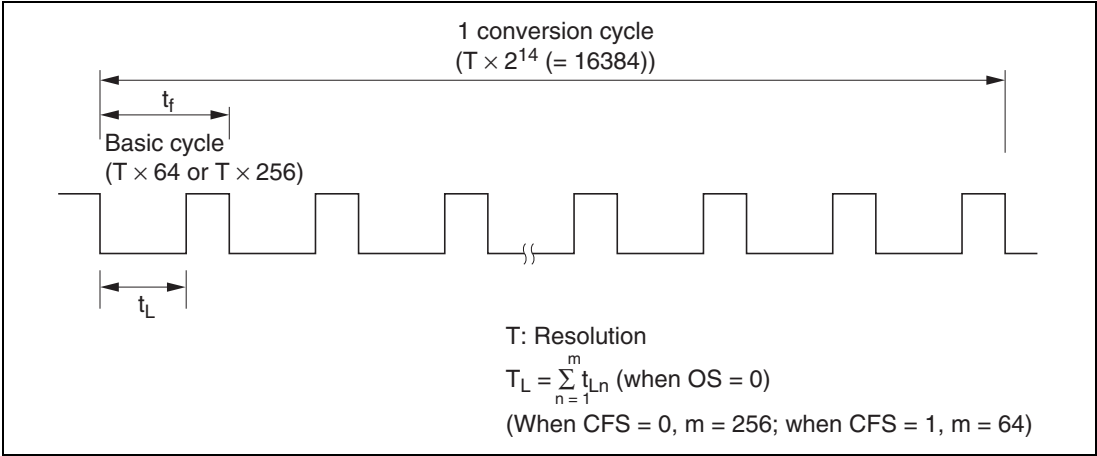

Figure 14.3 PWM D/A Operation
A PWM waveform like the one shown in figure 14.3 is output from the PWMX pin. When OS = 0, the value in DADR corresponds to the total width (T_L) of the low (0) pulses output in one conversion cycle (256 pulses when CFS = 0, 64 pulses when CFS = 1). When OS = 1, the output waveform is inverted and the DADR value corresponds to the total width (T_H) of the high (1) output pulses. Figure 14.4 shows the types of waveform output available.
Table 14.4 summarizes the relationships of the CKS, CFS, and OS bit settings to the resolution, base cycle, and conversion cycle. The PWM output remains flat unless DADR contains at least a certain minimum value. Table 14.4 indicates the range of DADR settings that give an output waveform like the one in figure 14.3, and lists the conversion cycle length when low-order DADR bits are kept cleared to 0, reducing the conversion precision to 12 bits or 10 bits.